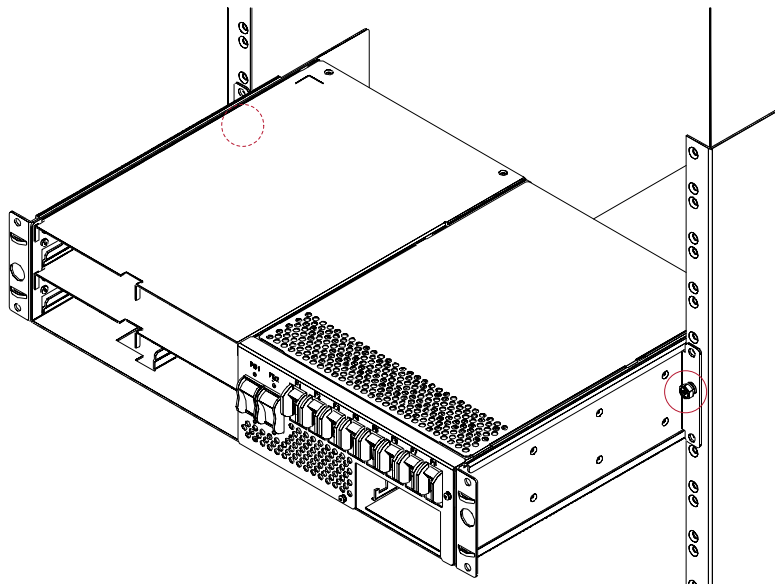

Figure 4-2 Slide Bracket Fixing
3. The subrack with adjustable brackets has to be fastened to the cabinet in the middle of the mounting bracket with two M6 x 12mm screws. Tighten the screws to 6Nm, Figure 4-2.